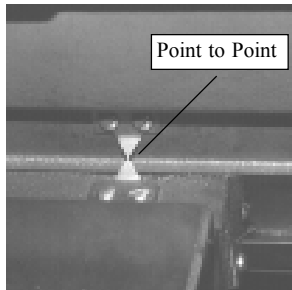

Figure 28 Point to point alignment
1. Align the carriage pointer with the pointer on the lathe housing by turning the carriage traverse hand wheel. Control lever must be in DRUM position to move carriage. It is very important to view this alignment when you are directly in front of the lathe. If you are off to the side, the pointers may appear aligned, when in actuality, they are not. **See Figure 28.**